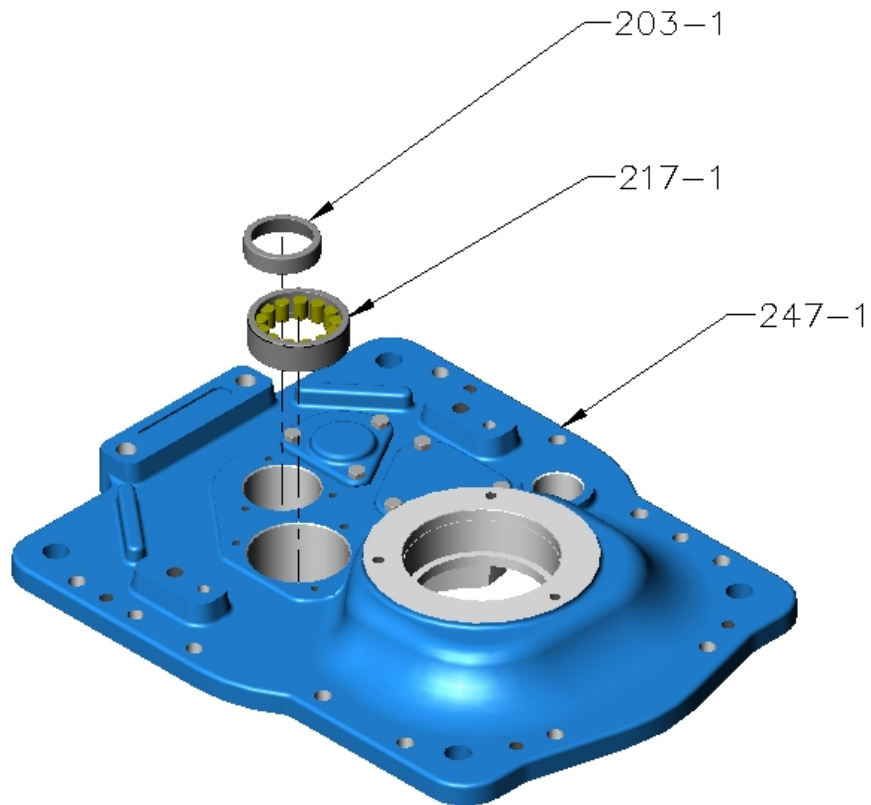

Figure 13 – Bearing races in case lid
R. At case lid remove following items (refer Figure 13):